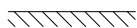

Fig. 34: Transporting the pump
- The transport eyes on the motor are only for guiding while bearing the load (Fig. 34).